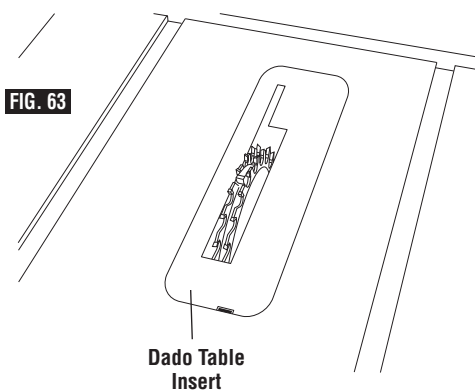

FIG. 63
7. Lower the blades below the table top and insert the Skilsaw Dado Table Insert (SPTA70WT-DD) (Fig. 63). Raise the cutters to the desired depth of cut (above the insert). Check that the tool is not plugged into a power source; then carefully rotate the cutters by hand to make sure all components are tightly held and no interferences exist.